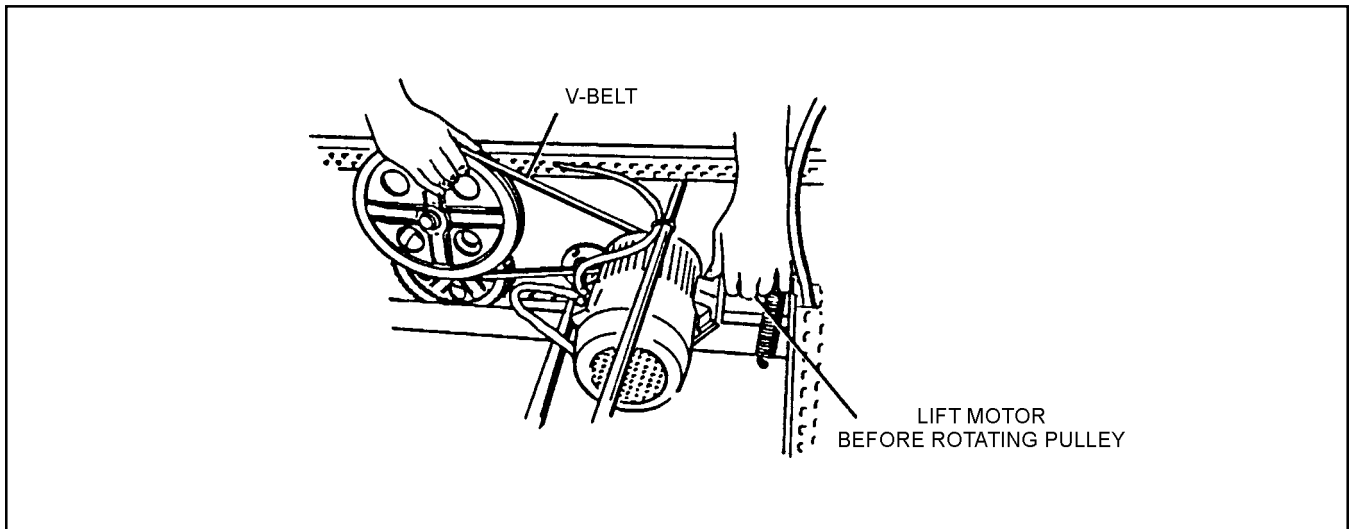

Figure 1. Manually Raising or Lowering the Setting Table.
4. **Firmly grip** the top of the large table V-belt pulley. Use your other hand to lift the motor while carefully rotating the pulley. Watch the V-belt in the motor pulley. The belt must stay seated in both pulleys. **Always lower the motor** so it brakes (stops) the table drive shaft **before** releasing the pulley grip. Refer to Figure 1.